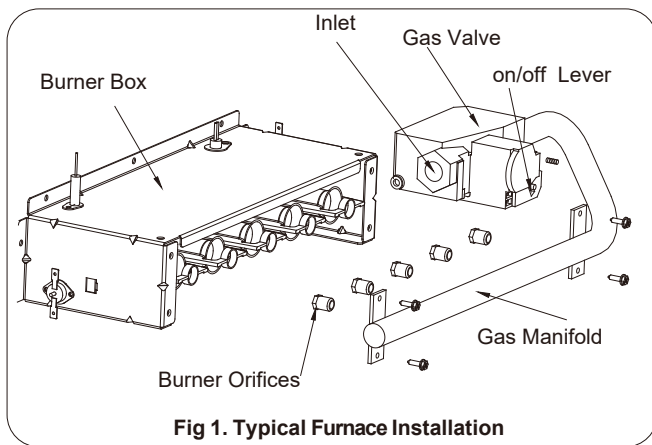

Fig 1. Typical Furnace Installation
1. Remove the four (4) fasteners that secure the gas manifold to the burner box, as shown in Figures 1. Carefully remove the gas manifold assembly from the burner box. Note that the gas manifold assembly consists of the gas valve, the gas manifold, and the orifices.
2. Carefully remove the burner orifices from the gas manifold, as shown in Figures 1.